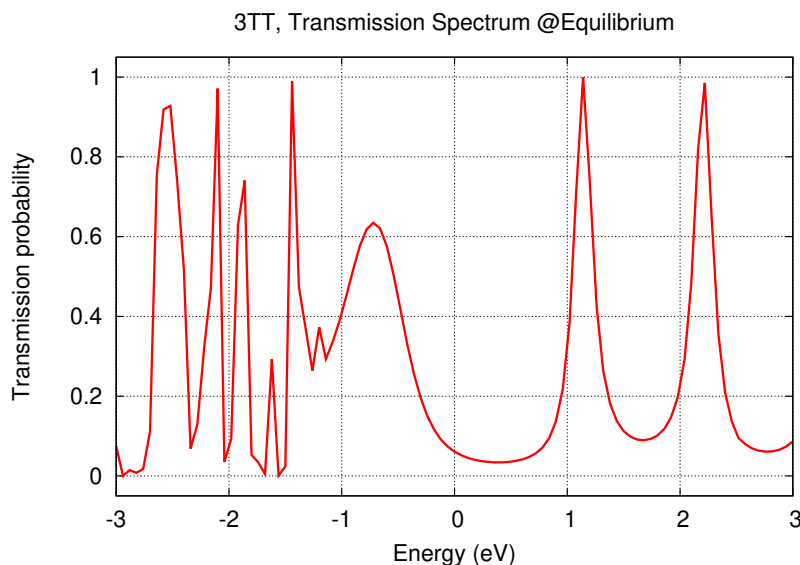

Figure 3: TS of 3-rings thiophene molecule at equilibrium
Let us start with the 3TT molecule. If you don't remember the structure have a look at the description in the theoretical section. Let us observe in figure 3 the Transmission Spectrum (named TS from now on) at the equilibrium ($V_{ds} = 0$ V) calculated using an atomistic calculation. The figure shows two clear peaks in the LUMO side and a few peaks in the HOMO side. However, the main current contribution is generated by the peaks close to the Fermi level (0 eV); therefore, the HOMO and LUMO peaks. Also, second-order HOMO-1 and LUMO+1 peaks play a relevant role in the conduction.
Let us consider to apply to the molecular transistor a drain-source voltage V_{ds} in the range comprised between -3 V and 3 V. Let's assume that the Transmission Spectrum (TS) remains the same of figure 3 when the V_{ds} is varied.
EEBESD_focus1_Q5: What do E0 array and all its values represent? HINT: Refer the values contained in E0 to the TS at the equilibrium shown in figure 3.